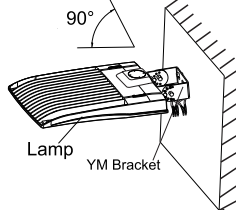

Figure 18
- Step 3: Connect the fixture to the bracket and tighten the screws; connect the wires properly and put them into junction box. (Figure 18)
- Notice: Adjustable angle is 0-90° (Figure 18)